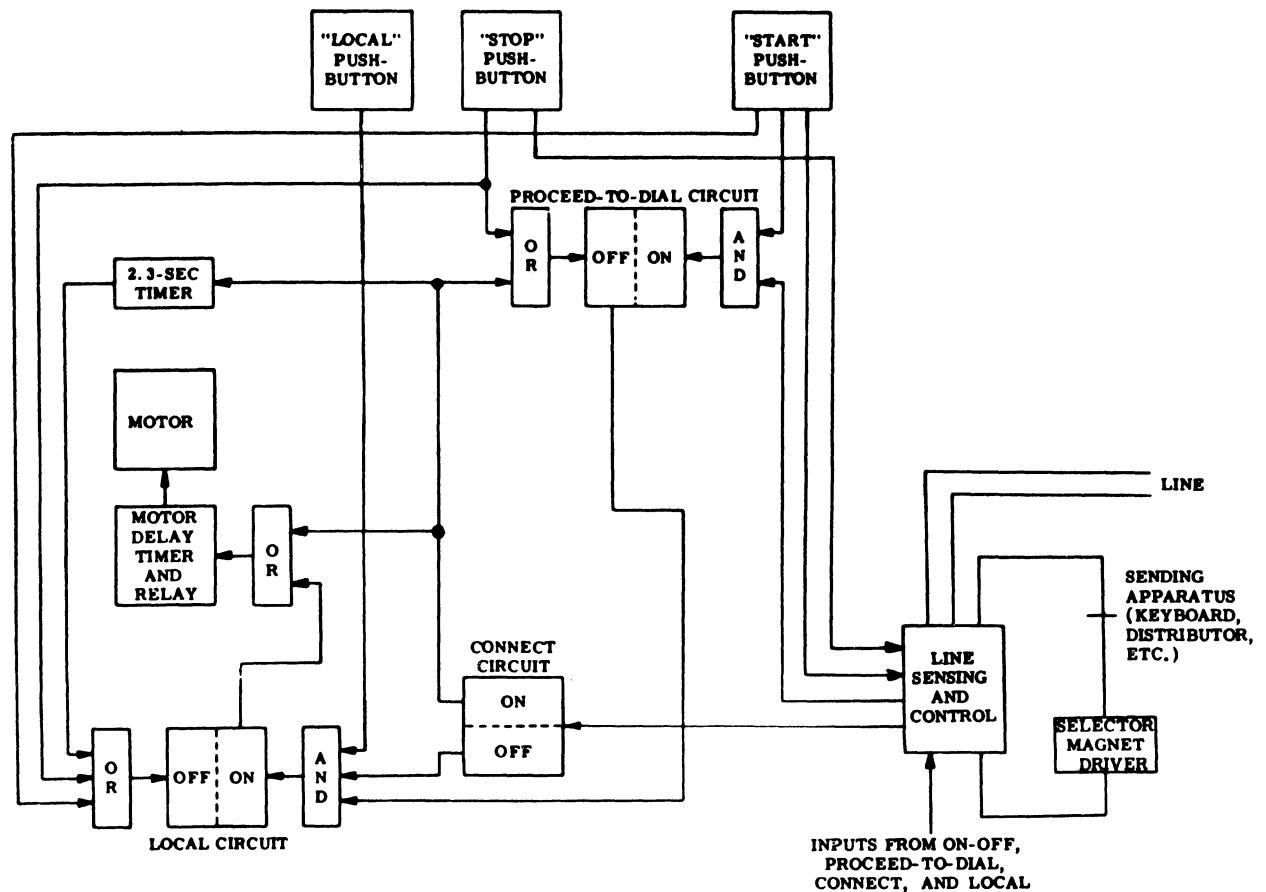
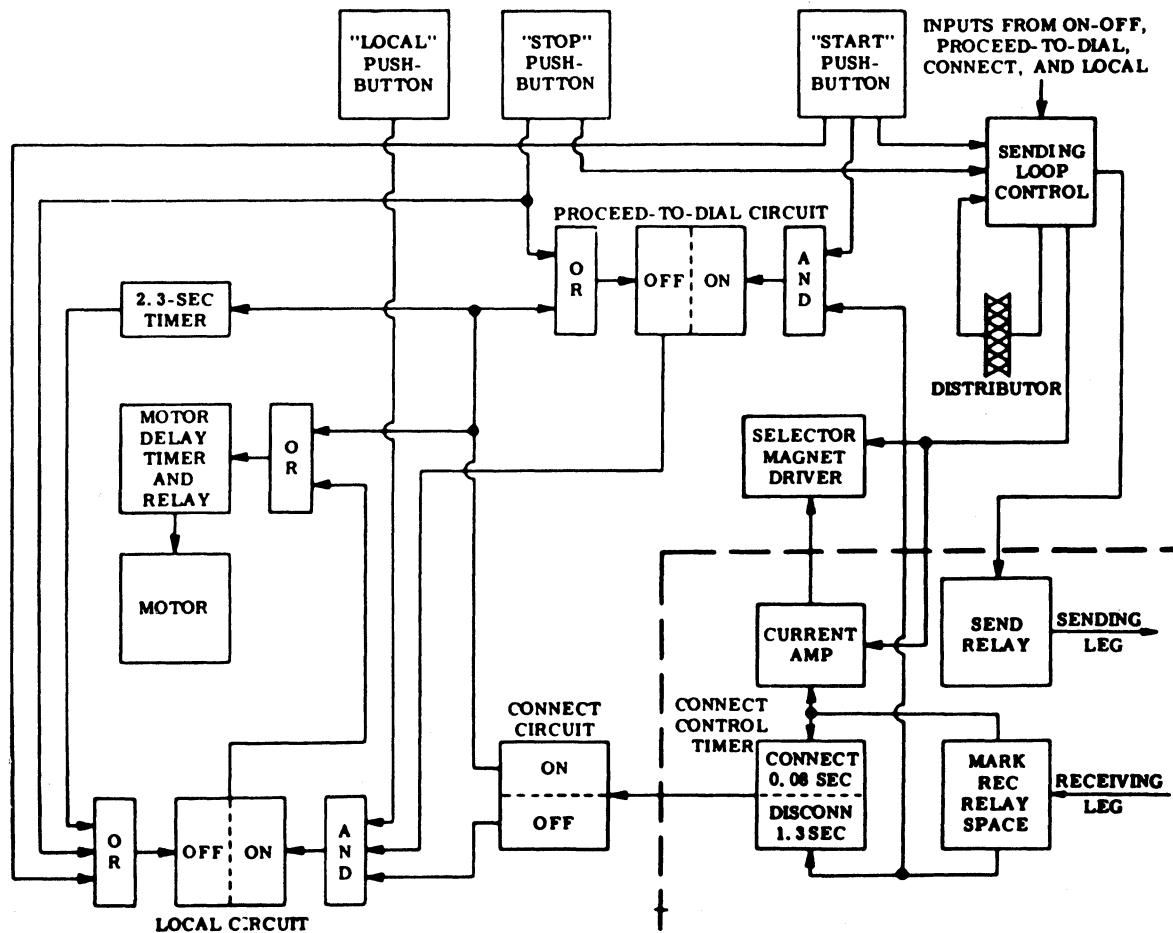

Figure 7 - Circuit Interconnections
Figure 10 - Polar Adapter Circuit
**3.18** The block diagram for the circuit interconnections is shown in Figure 7.
3.68 Figure 10 is a block diagram showing the polar adapter connected to the call control unit. The call control unit portion of the block diagram is the same as that shown in Figure 7 with one exception. The line sensing and control block of the call control unit is now called the sending loop control. All of the components are identical in these two blocks, but rewiring allows the block to control the sending leg rather than the signal loop. This block also has outputs to the current amplifier and the selector magnet driver. The input to the current amplifier allows the teletypewriter to read its own copy. The input directly to the selector magnet driver is for teletypewriter blinding.